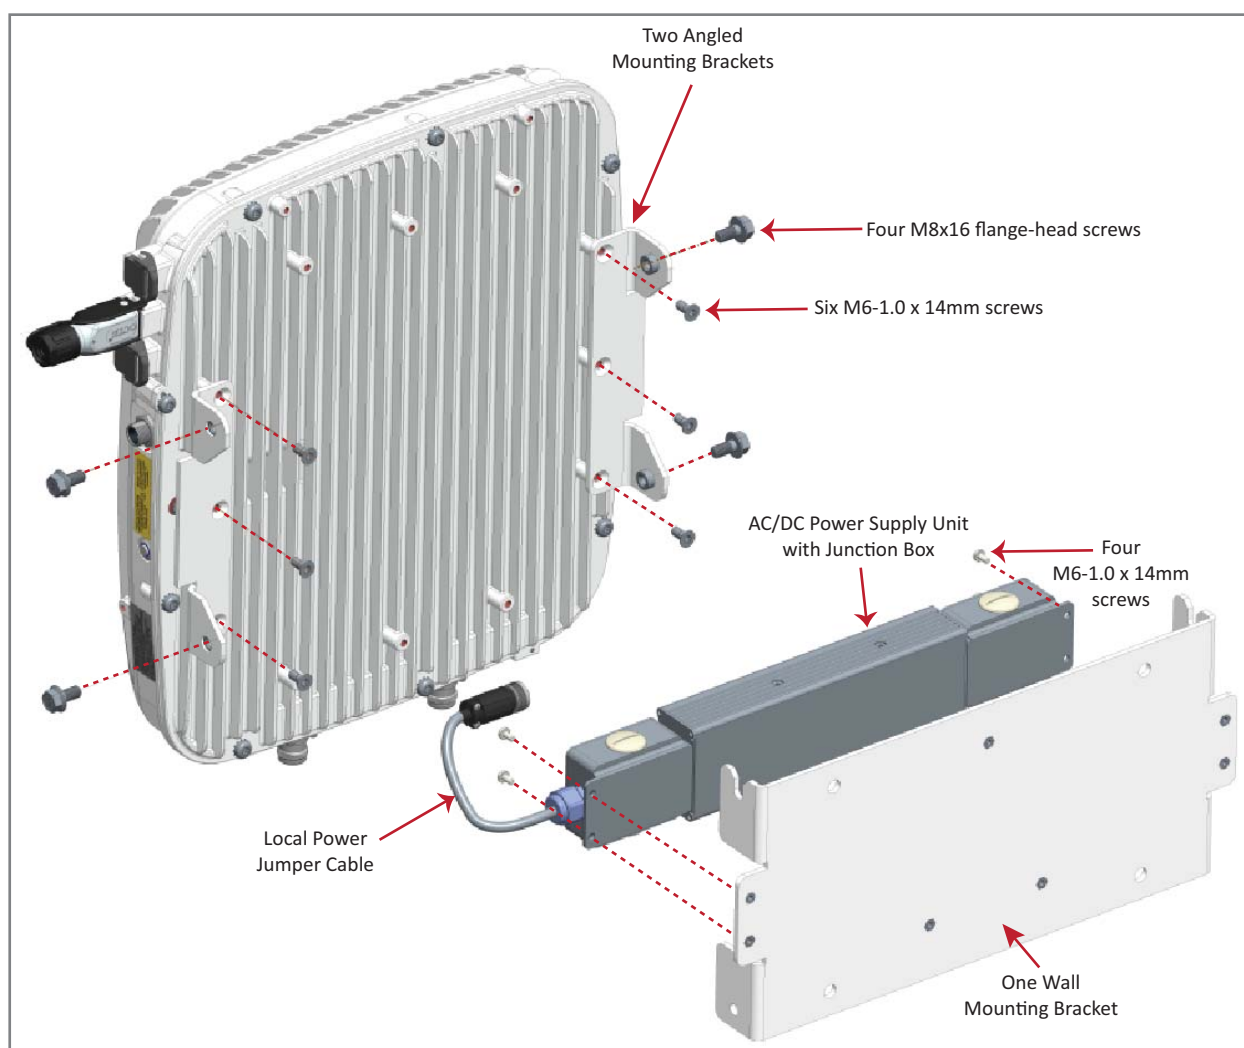

Figure 12. CAP L (No Fan Kit) with AC/DC Power Supply Kit (PN 7775087-xx) and CAP L Mounting Bracket Kit (7774354-xx)
- 5 Assemble and mount the AC/DC Power Supply Kit and the CAP L, as described below and as shown in Figure 12 (CAP L without Fan Kit) and Figure 13 on page 34 (CAP L with Fan Kit). The Local Power Jumper Cable Assembly will be connected to the AC/DC Power Supply Junction Box at the factory.